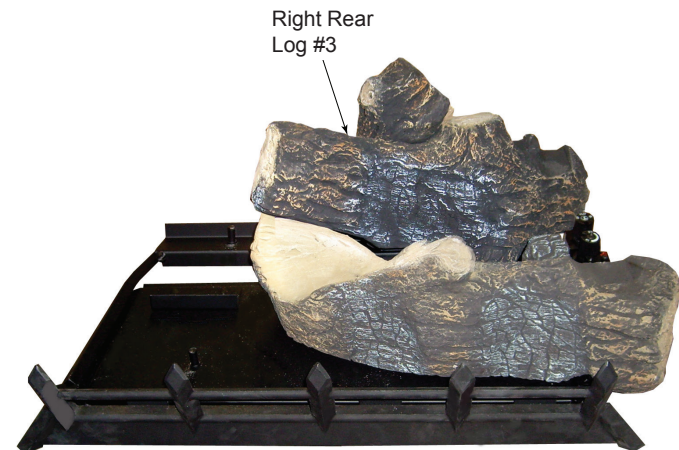

Figure 23 -
3. Place right rear log (#3) on pin located on rear support bracket and rest left side of log on front right log. *Figure 23.*